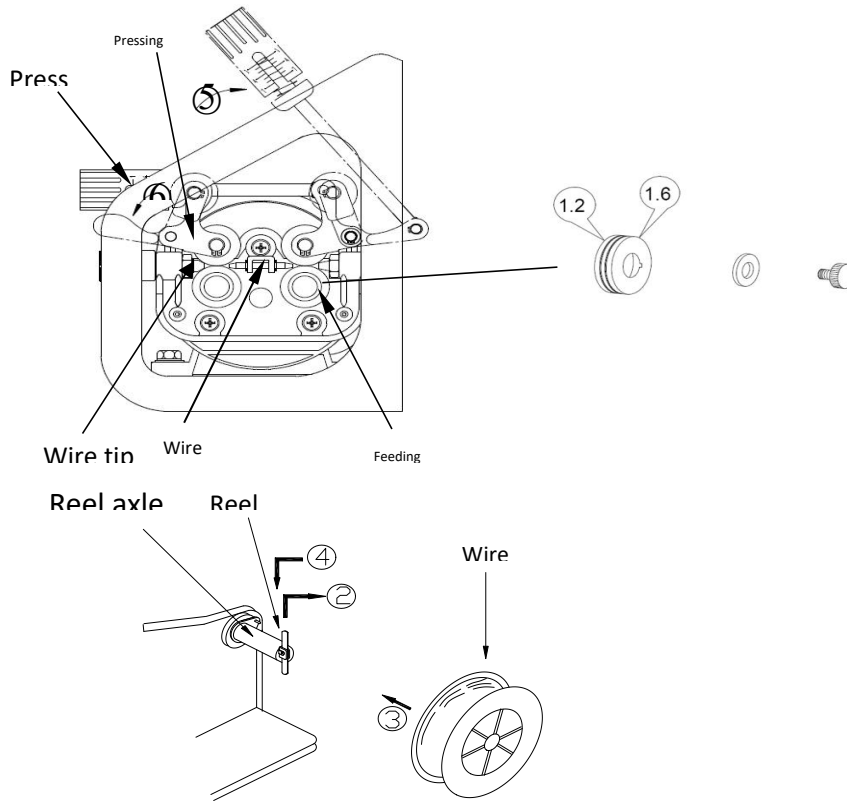

Figure 6
- ① First, make sure that the size of the wire feeding slot at the outer side of the wire feeding wheel fits with the diameter of the used welding wire (please refer to Figure 6), otherwise, dismantle the wire feeding wheel and choose suitable diameter wire, install the wheel and make the slot be at the outer side perfectly;
- ② Install the welding wire reel to the welding wire reel’s axis, adjust the baffle of the welding wire reel’s axis to be spread,screw down the manual nut.